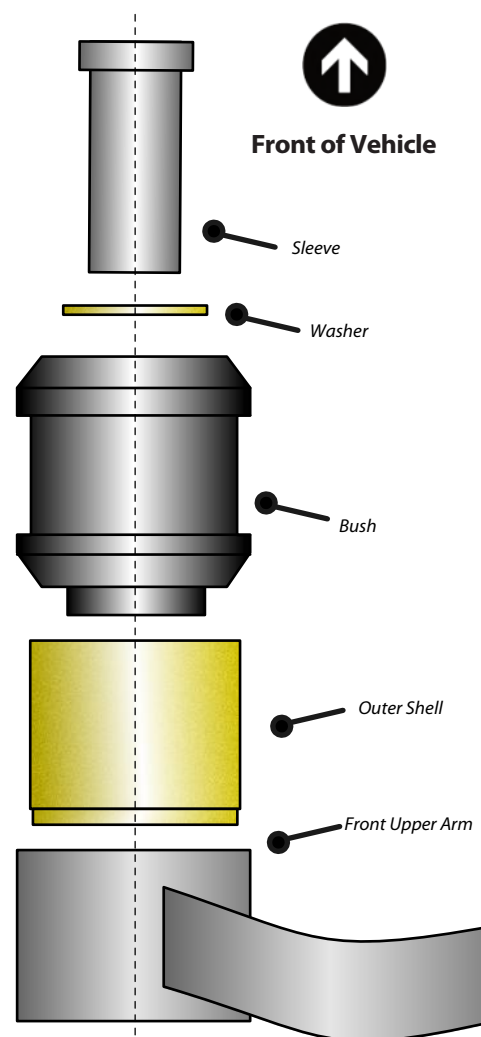

Figure 1
2. Press in one of the outer shells from the top of the arm as shown in figure 1. Start with the leading edge and ensure that the shell is pressed in square. The outer shell will sit flush in the arm.
3. Press the bush into the bore of the outer shell as shown in figure 1. Ensure the flatter head of the bush is positioned such that it will face the front of the vehicle.
5. Apply some of the supplied grease to the bore of the polyurethane bush and insert the sleeve into the bore of the bush as shown in figure 1, so that the adjustable hex and washer sit against the flat face of the bush.